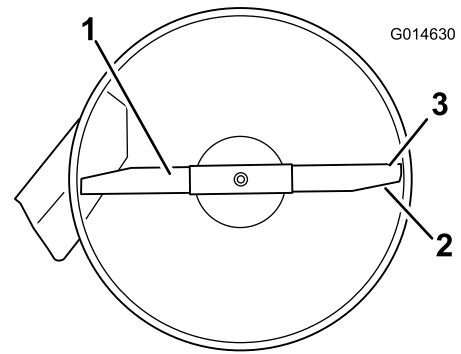
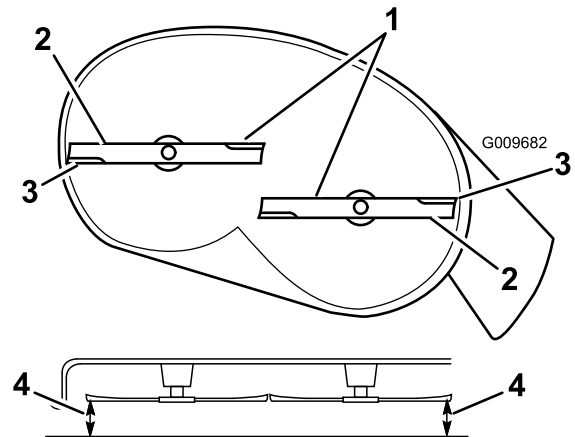

Figure 57
Figure 58
4. Carefully rotate the blade(s) so that they are all side to side (Figure 57 and Figure 58).
5. Measure between the outside cutting edges and the flat surface (Figure 57 and Figure 58). If both measurements are not within 5 mm (3/16 inch), an adjustment is required; continue with this procedure.